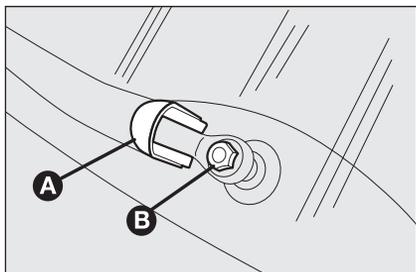

fig. 13
- raise the cover **A**-fig. 13 and remove the arm from the car, slackening the nut **B** that fastens it to the pivot pin;